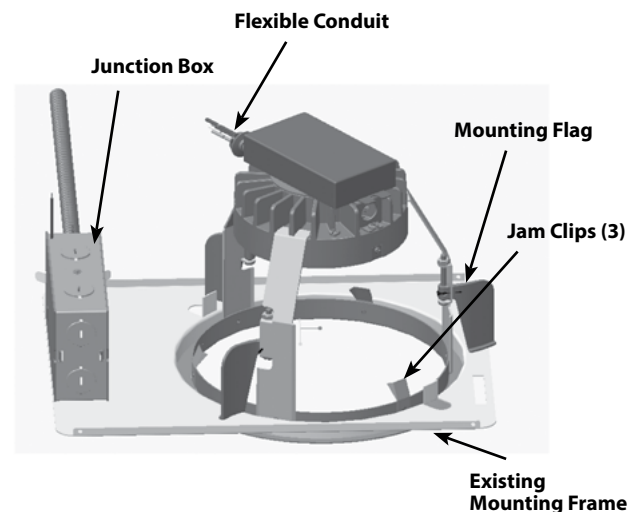

Fig.4.
2. To secure fixture over **Existing Mounting Frame**, swing **Mounting Flag (3)** outward by turning **Flag Screw** clockwise. **Ceiling Flange** should be snug tight against ceiling as shown in **Fig. 4**. **DO NOT OVERTIGHTEN SCREWS**.